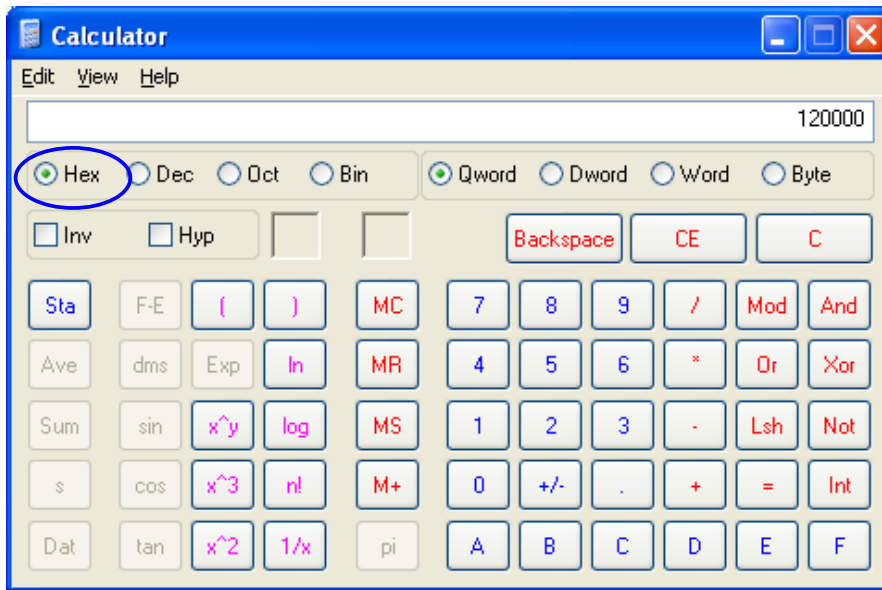

Figure 174
- The outcome in Hexadecimal will be **120000** (See Figure 174)